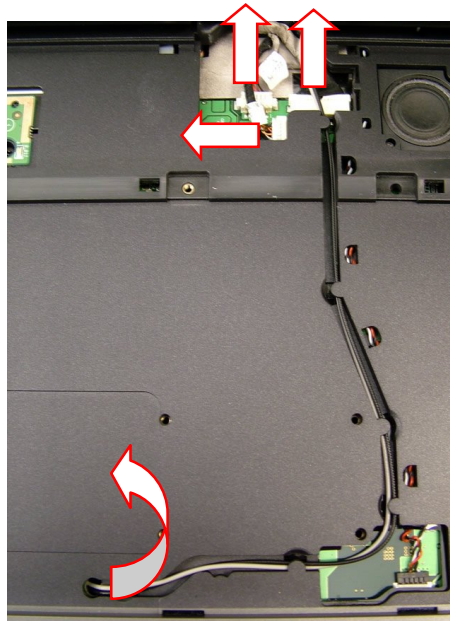

Fig. 38 Disconnecting LCD cable connectors.
3. Pull the wireless LAN antenna cables through the base and clear them from the clips (see Fig. 38).